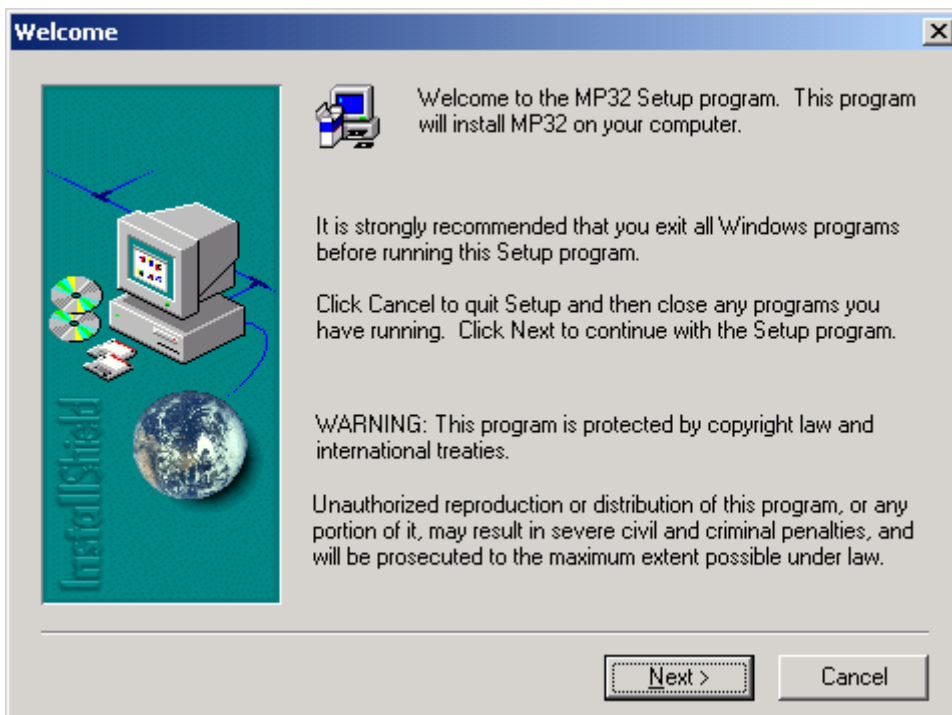

Figure 6 – MP32 Installation – Welcome
2. Figure 6. Welcome - Click <Next> to continue.